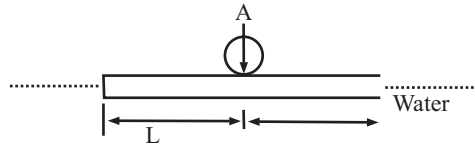

Fig 5
- Q.5.** A log of wood is floating in water with a weight W placed at its middle as shown in Fig.5 Neglecting the weight of log, draw shear force (SF) and bending moment (BM) diagrams of the log.